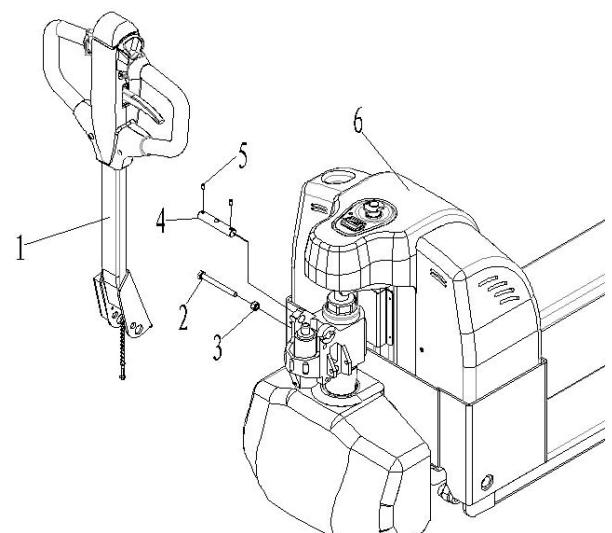

Fig. 5: SPT 15 tiller assembling
- c)** Press the tiller arm down; unscrew and remove the screw (2) and the nut (3) (fig. 5).
- e)** Use a hammer to insert the 2nd dowel pin (5, fig. 5) into the 2nd hole of the axle.